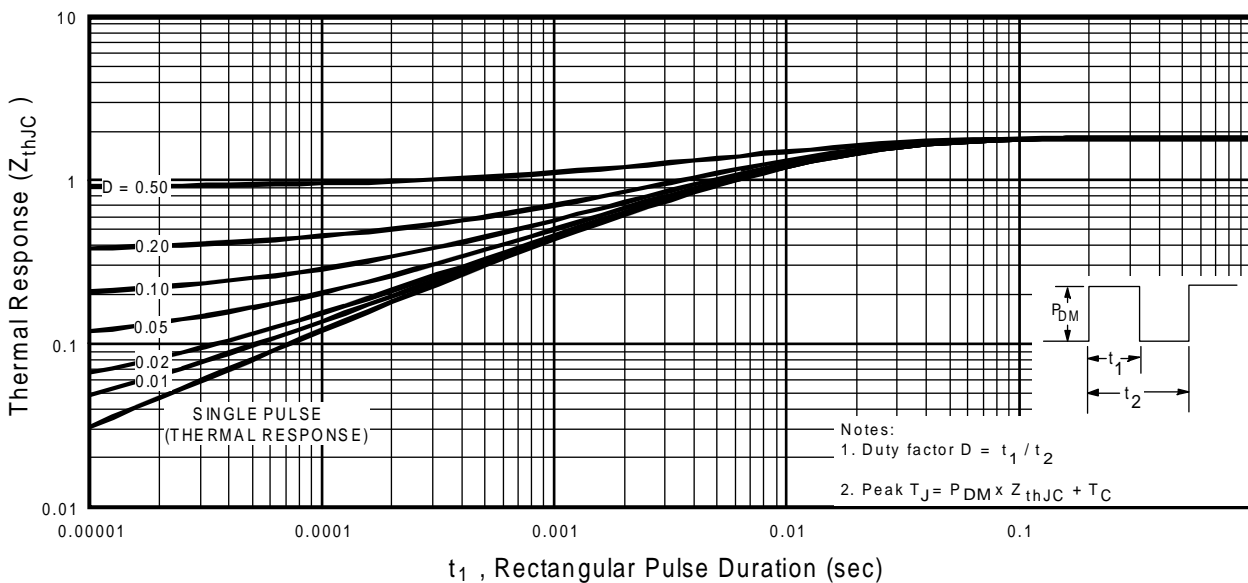

Fig 11. Maximum Effective Transient Thermal Impedance, Junction-to-Case
- ① Repetitive rating; pulse width limited by max. junction temperature. ( See fig. 11 )
- ② VDD = 15V, starting TJ = 25°C, L = 300μH